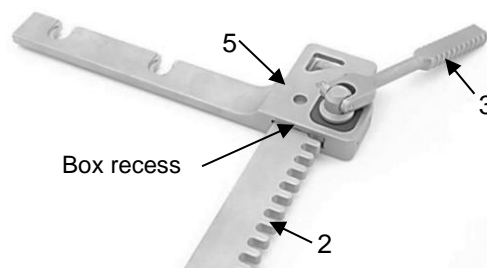

Fig. 8
Insert the toothed rack (2) into the recess in the box (5) until the pinion of the drive lever (3) engages in the toothed rack (2) (Fig. 8).